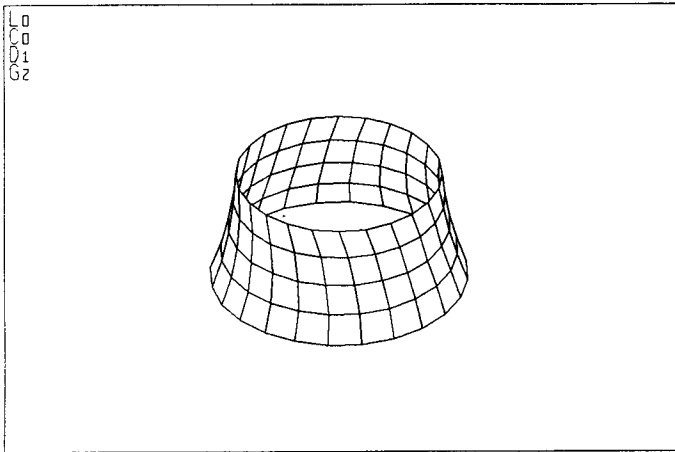

Figure 3
Step 5: Generate elements between corners for the inner hub (Figure 3)